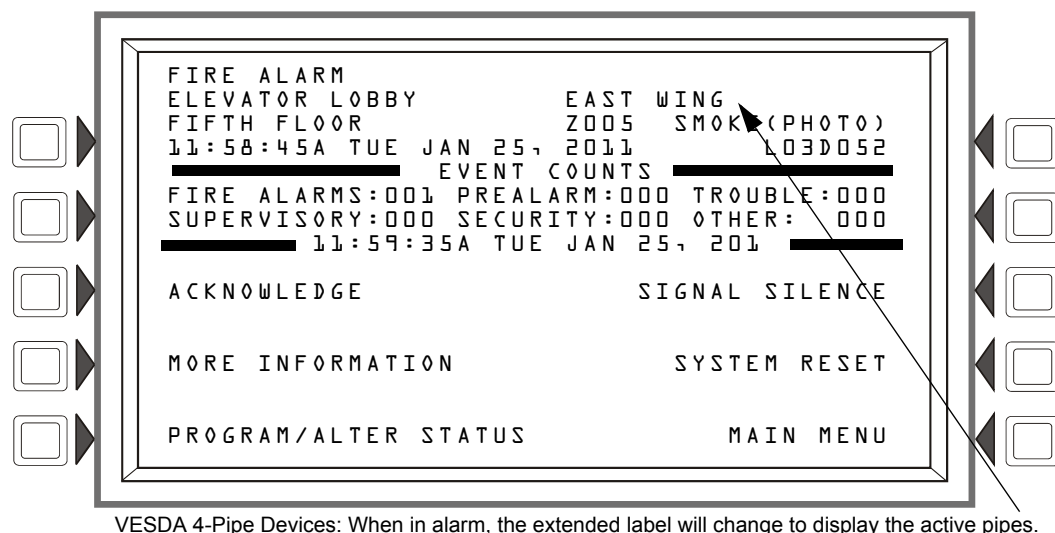

Figure 2.2 Fire Alarm Message Display Example
- Displays **FIRE ALARM** in the upper left corner of the display, a Type Code that indicates the type of device that activated the fire alarm, and other information specific to the device. The message occupies the top four lines of the screen, replacing the System Normal message as shown in Figure 2.2 below. Refer to “Point Events Format” on page 14 for a full description of each message field